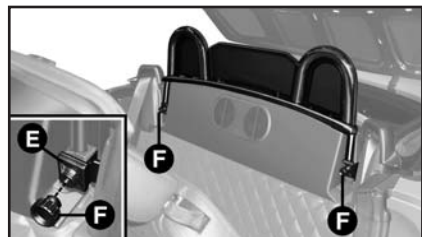

fig. 71
4) Position the cover **E**-fig. 71 on the brackets **A** and **B** as shown in the figure. Then fasten knobs **F** on the supporting bracket screw.
1) Hold the bonnet up with one hand and, with the other, remove rod **A**-fig. 71 from recess **B** and replace it in its clip.